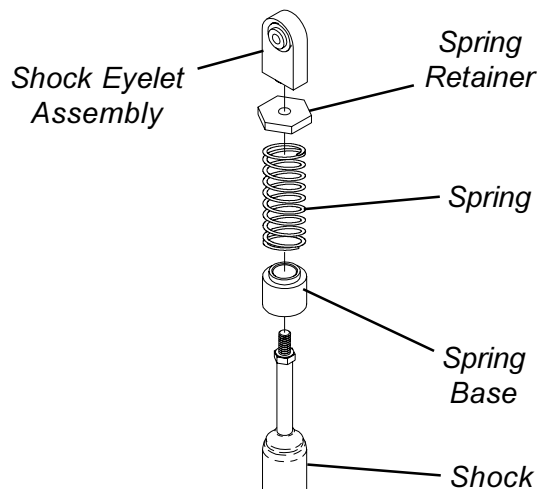

FIGURE 7 - SHOCK SPRING REPLACEMENT
**SHOCK SPRING REPLACEMENT (FIGURE 7)**